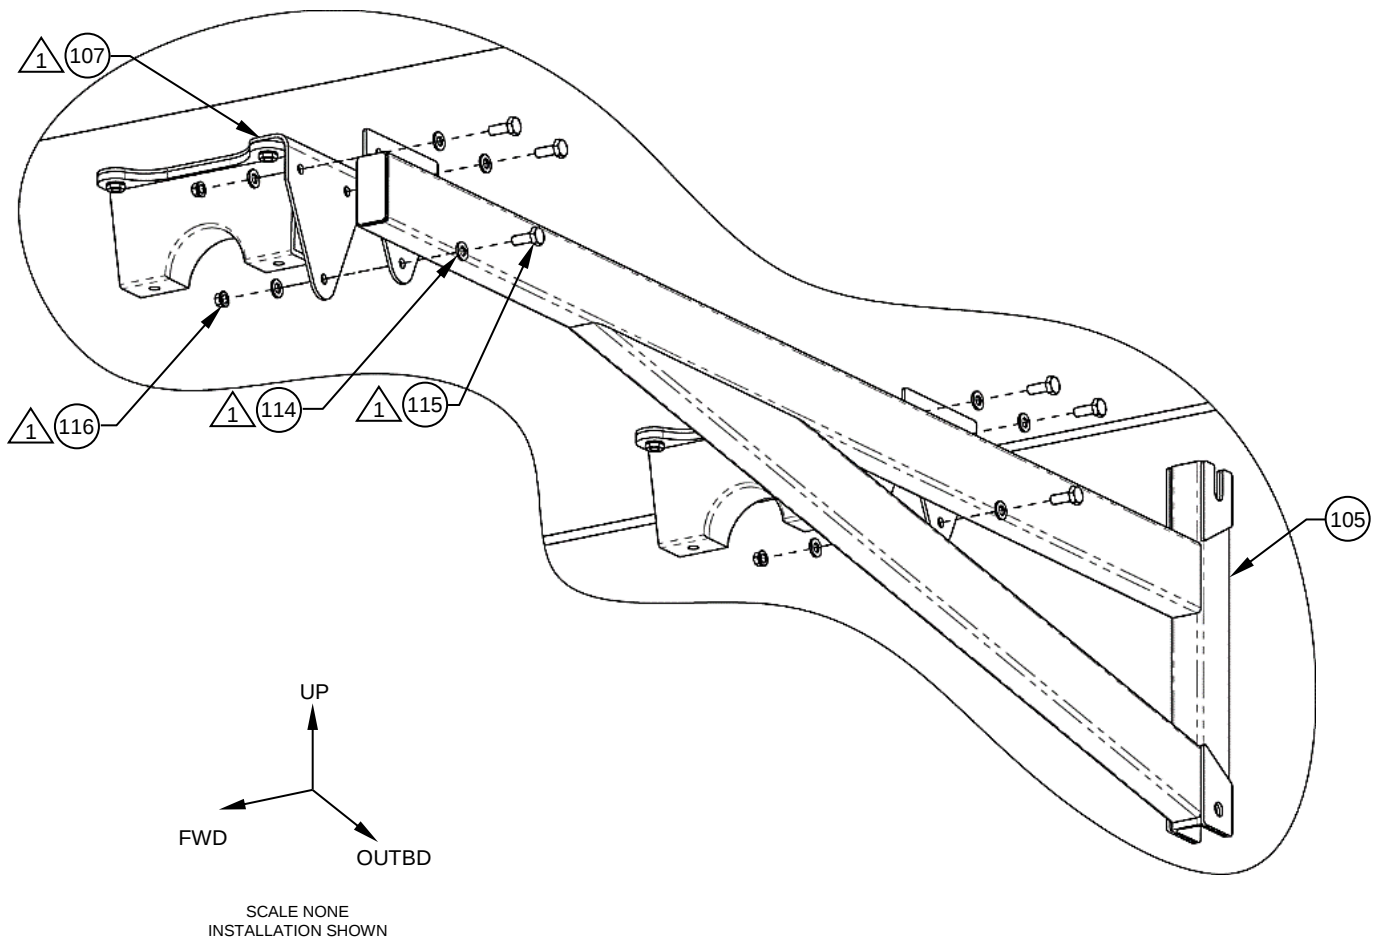

Figure 4
1. To remove the FWD Attachment Arm Assy, (Item 105), from the 2X FWD Attachment Bracket, (Item 107), remove 6x Bolt, Machine, (Item 115), 6x Nut, Self-Locking, (Item 116), and 12x Washer, Flat, (Item 114). Reference Figure 4.